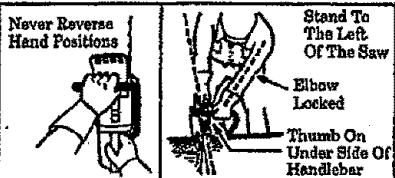

Figure 3
1. Keep a good, firm grip on the saw with both hands when the engine is running and don't let go. Figure 3. A firm grip can neutralize kickback and help you maintain control of the saw. Keep the fingers of your left hand encircling and your left thumb under the front handlebar. Keep your right hand completely around the rear handle whether you are right handed or left handed. Keep your left arm straight with the elbow locked.
2. Position your left hand on the front handlebar so it is in a straight line with your right hand on the rear handle when making bucking cuts. Figure 3. Never reverse right and left hand positions for any type of cutting.
4. Stand slightly to the left side of the saw to keep your body from being in a direct line with the cutting chain. Figure 3.